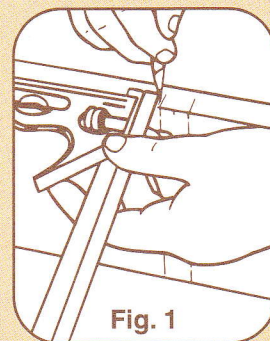

Fig. 1
- Extend the dado lines down both edges of the board with a combination square as shown and mark the depth of the dado on each edge with a marking. (**See Fig.1**)